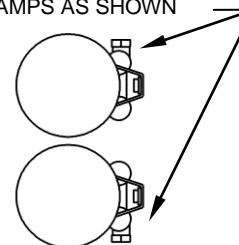

FIGURE 2
9. Remove the muffler assembly from the box and slide one supplied clamp #27-61MSC onto each muffler tube. Refer to Figure 2 for proper alignment.